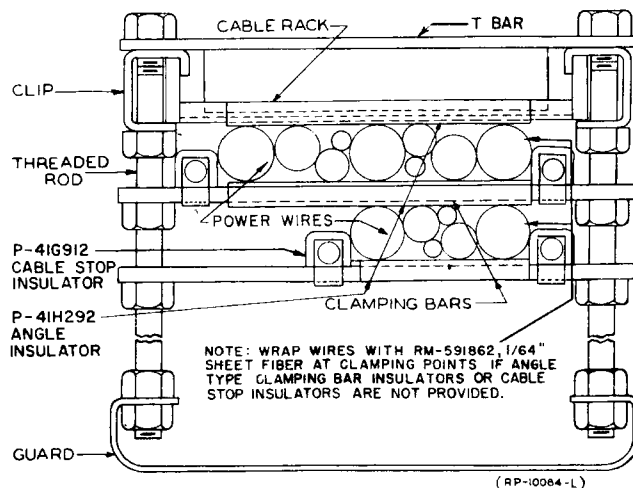

FIG. 4 CLAMPING DETAILS FOR A VERTICAL
5.304 Clamps referred to herein are per ED-91127-70 and ED-91129-70. These drawings or equivalent information are furnished with job papers and show an arrangement for supporting power wire and cable on cable racks. They detail the assembly of the clamps which consist of bolted-type stops on each side of the cables and a clamping bar tightened against the cables as shown in Figure 4.
5.305 The height of a stop (Figure 4) is ample for one 800,000 CM wire. The depth and arrangement of a layer of leads will depend on local conditions and will be limited by the ability of the stops to hold the arrangements from spreading and the depth must be enough to permit the clamping bars to hold the leads sufficiently tight.
5.306 When leads are to be added to a partly filled clamp (Figure 4) they should first be run on the outside of the clamp and then placed in position underneath the clamps by removing one clamp at a time beginning at the top. This is to prevent slippage of the original leads.
5.307 Insulate the cables from the clamping bar using an angle type clamping bar insulator furnished or by wrapping the cables with one layer of RM-591862 1/64" sheet fiber at the clamping bar as shown in Figure 4.